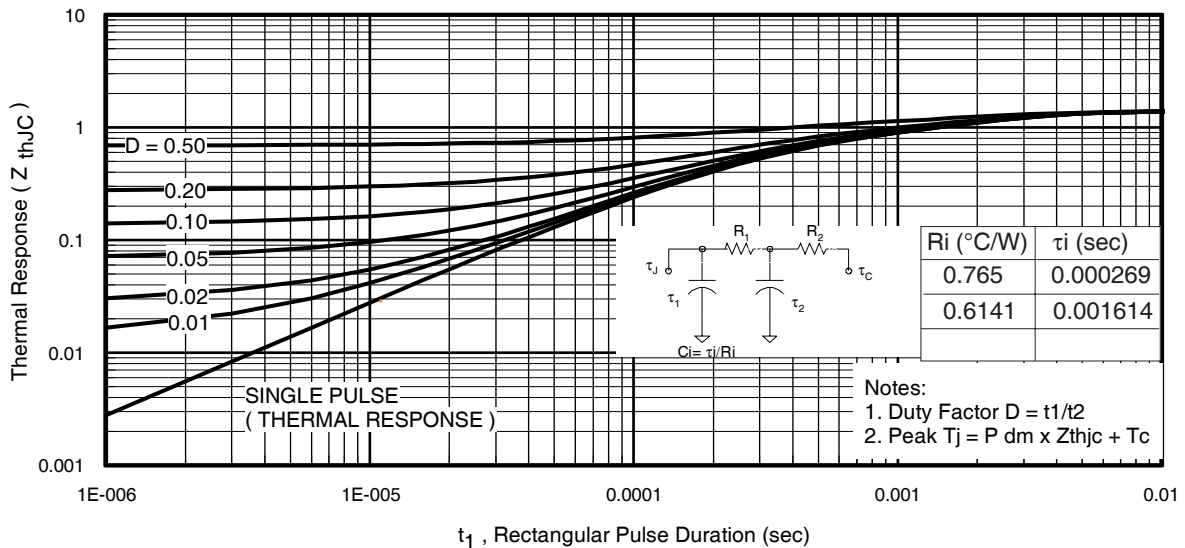

Fig 11. Maximum Effective Transient Thermal Impedance, Junction-to-Case
- ① Repetitive rating; pulse width limited by max. junction temperature. (See fig. 11).
- ② Limited by T_{Jmax} , starting $T_J = 25^\circ\text{C}$, $L = 0.089mH$, $R_G = 25\Omega$, $I_{AS} = 36A$, $V_{GS} = 10V$. Part not recommended for use above this value.
- ③ Pulse width $\leq 1.0ms$; duty cycle $\leq 2\%$.
- ④ $C_{oss\ eff.}$ is a fixed capacitance that gives the same charging time as C_{oss} while V_{DS} is rising from 0 to 80% V_{DSS} .
$Z_{thJC}(D, t_{av})$ = Transient thermal resistance, see figure 11)